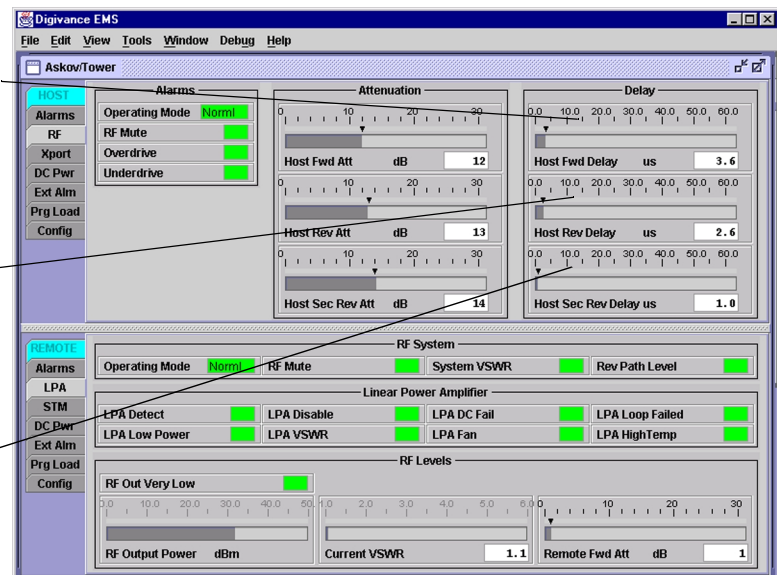

Figure 4-14. HOST RF Display
1. Click on the HOST RF tab. The HOST RF display will open within the EMS main window as shown in Figure 4-14.
2. Right-click on the **Host Fwd Delay** section of the display (see Figure 4-14). The **Host Fwd Delay** pop-up screen will open as shown in Figure 4-15.
5. Repeat the process for reverse delay and diversity reverse delay by right-clicking on the appropriate delay section (see Figure 4-14) and then entering the required delay value in the pop-up screen.